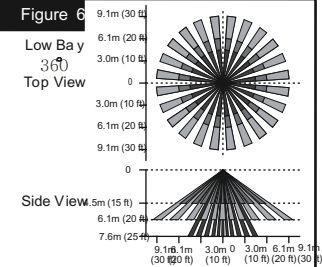

Figure 7A
3. To change lens, turn trim ring so that the two indented dots line up and pull out by the finger tabs (**refer to Figure 7A**).